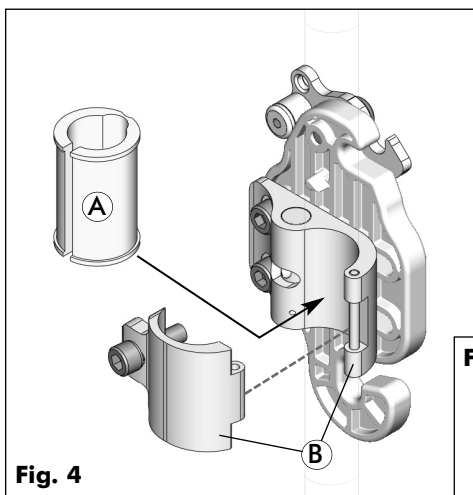

Fig. 4
- 2 Loosely install the Cane Clamp Assembly (B) onto each back cane in the desired configuration- refer to **Fig. 4** and **Fig. 5** for an installation overview.